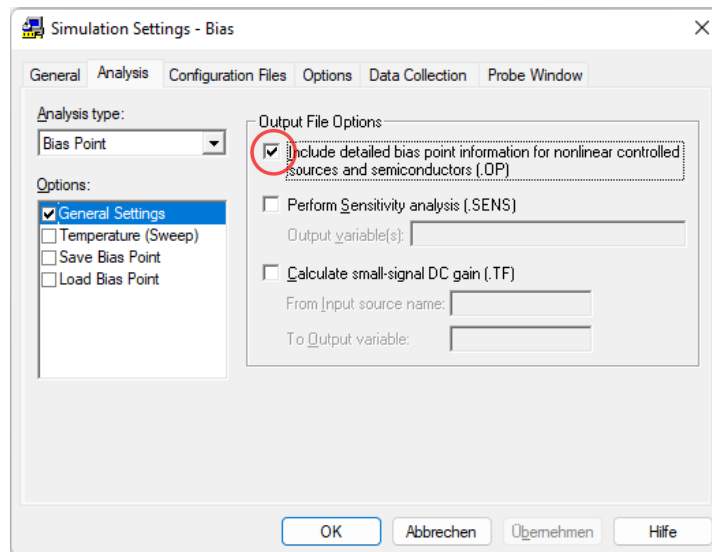

Figure 6: *Bias Point* simulation setup to determine the small signal parameters of the transistor.
- m Now modify the simulation setup (PSpice → Edit Simulation Profile) as shown below (see also Fig. 6): Check the “Include detailed bias point information ...”. Using this setup PSpice calculates the small signal parameters of all non-linear devices in the circuit (transistors, diodes, etc.)